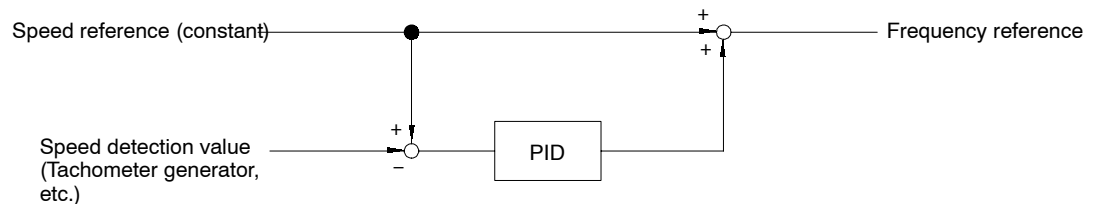

Fig 7.25 Application Example of Settings 3 and 4
- *Figure 7.25* shows a speed control application example for settings 3 and 4 (for SPEC: F).